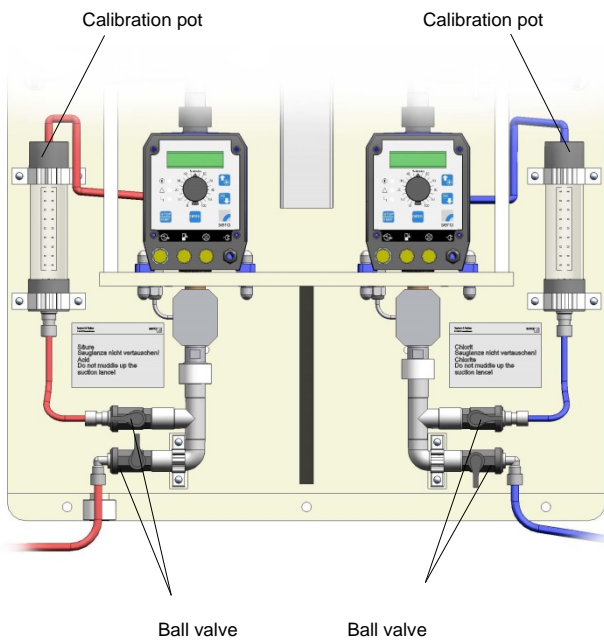

Fig. 10
1. Switch the ball valves in the suction pipes towards the calibration pots (see Fig. 10).